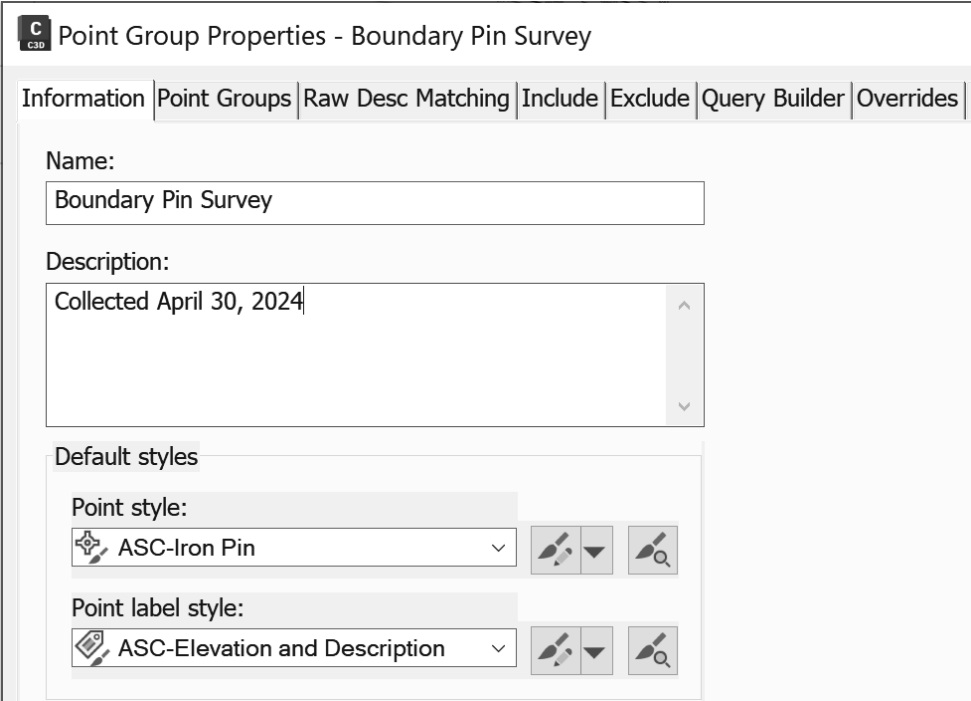

Figure 2–52
5. Select the *Include* tab. Select the **With raw description matching** option. Type ***IP.** in the field to select all of the points that have the last three characters *IP.* (iron pin). (Verify that a period follows IP. By default, this is NOT case sensitive.) You can confirm this in the *Point List* tab, as shown in Figure 2–53. This will also select other Iron Pin descriptions beyond the “Found” ones, which the surveyor may use to determine Iron Pins.